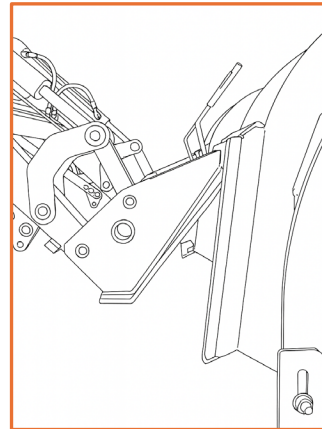

Figure 3-2
6. Carefully place the top of the quick attach under the top of the mount points. See Figure 3-2.